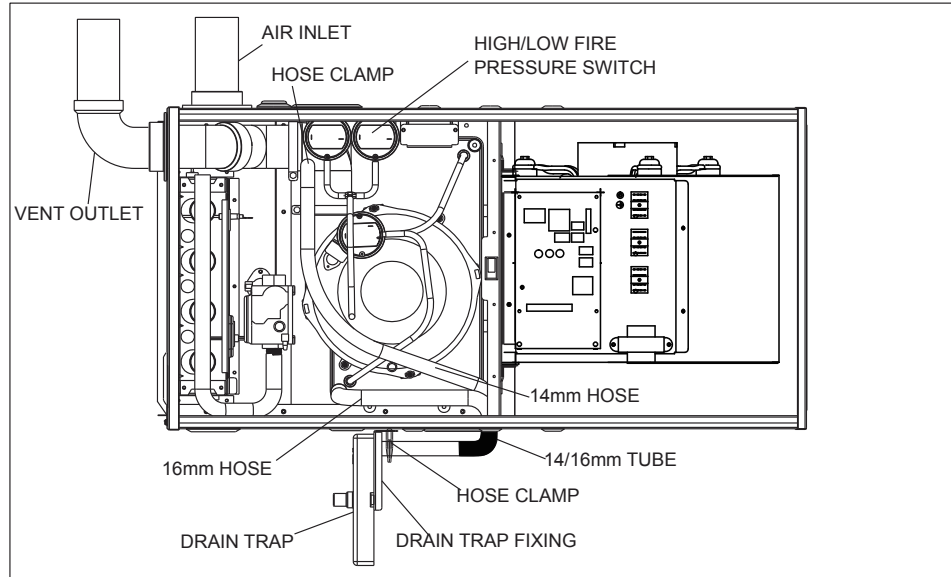
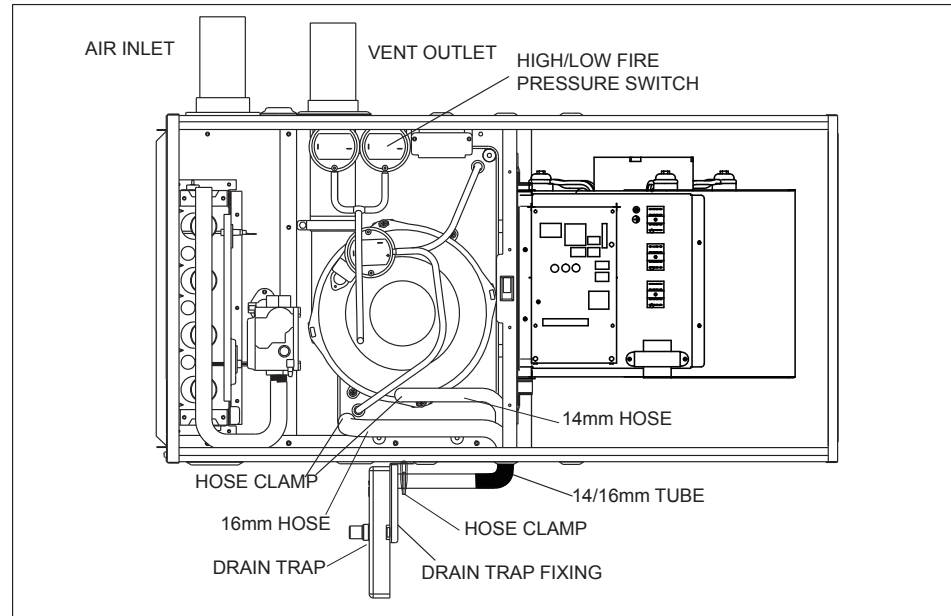
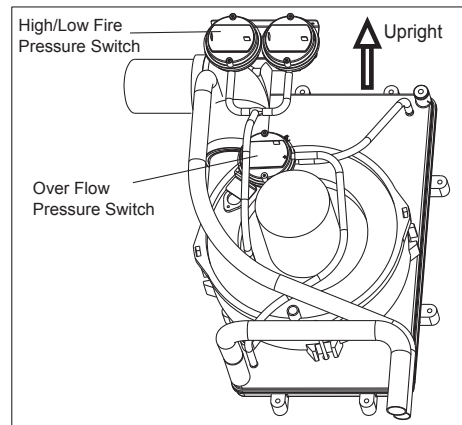

Fig. 14 - Horizontal Left Side Installation, Vent Through Top Panel
Fig. 15 - Horizontal Left Side Installation, Vent Through Side Panel
Fig. 16 - Pressure Switch Position
**CAUTION: FOR HORIZONTAL LEFT INSTALLATION (AIR DISCHARGE TO THE LEFT), HOSES OF CONDENSATE OVERFLOW PRESSURE SWITCH NEED TO BE REROUTED. (SEE FIGURE 14&15)**
#### 2. Air discharge to the left and vent through furnace top panel (see Fig.14 and Fig. 16)
#### 3. Air discharge to the left and vent through furnace side panel (see Fig. 15 and Fig. 16)
In this installation, hoses connecting between ports of overflow protection pressure switch (overflow switch) and pressure tabs on the collector box **MUST be switched**. The overflow switch has two ports, which is different from the other two regular pressure switches that have only one port. Make sure that black port (positive) is connected to the lower position tap on condensate collector box and gray port (negative) to higher tap of condensate box. Connecting incorrectly will result in failure to protect condensate overflow. (See Fig. 16)